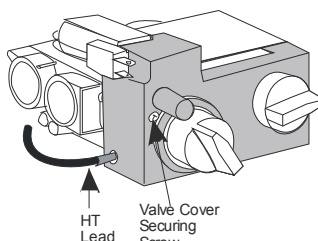

Figure 53
3. Remove the valve cover securing screw. (See **Figure 53**).